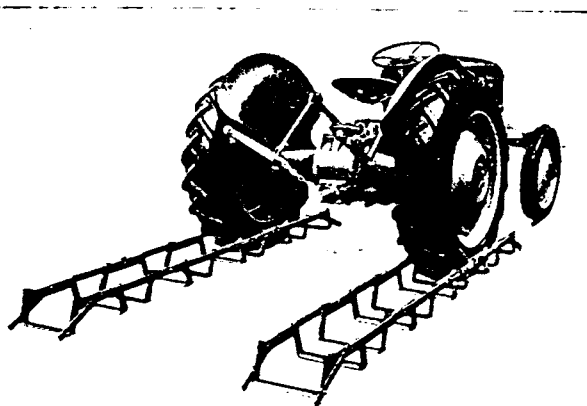

FIG. 12
1. With girdles positioned behind tractor, reverse tractor so that rear wheels stand on second stirrup. Fig. 12.